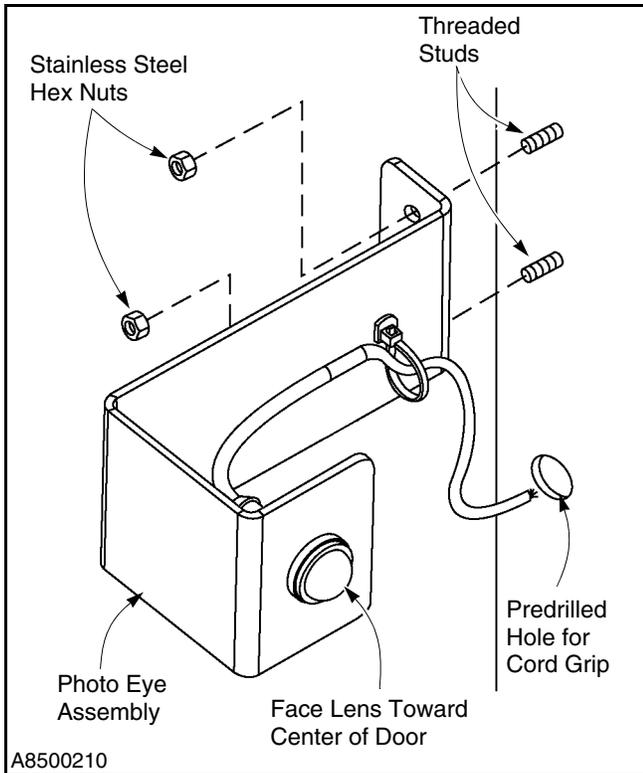

Figure 26
2. Install the photo eye emitter module assembly on the threaded studs located on the front of the left side column. Face the photo eye with its lens pointing toward the center of the door. Use two stainless steel 1/4-20 hex nuts to secure the photo eye module assemblies to the studs. (See Figure 26.)